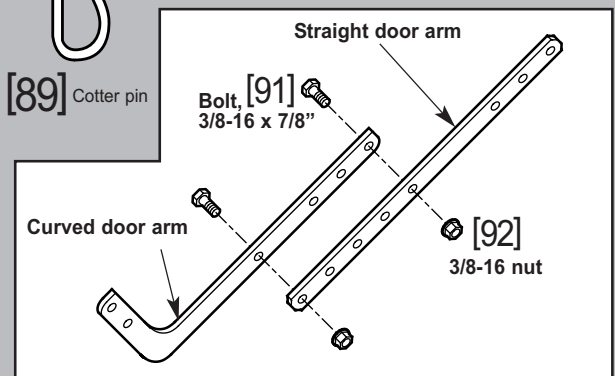

Fig. 2-8
**10. Join door arm sections (Fig. 2-8).**
- Use two (2) 3/8" x 7/8" hex bolts [91], and hex flange nuts [92].